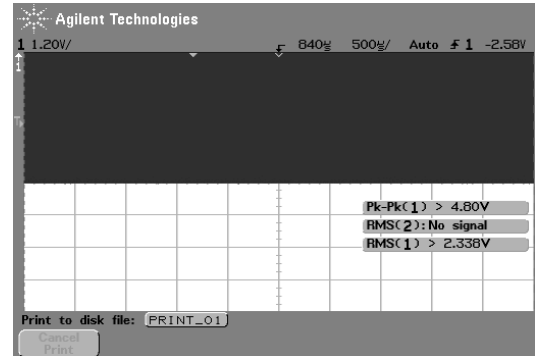

Figure 4-3: CW signal with position adjusted to mid-point of display
- Adjust the position of the oscilloscope signal so that the bottom of the CW waveform is at the mid-point of the display (see Figure 4-3).